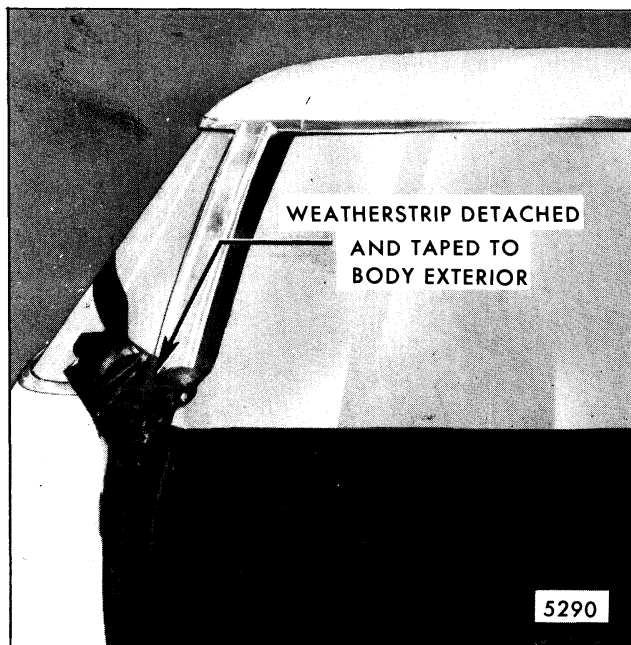

Fig. 7-89-Body Opening Weatherstrip Detachment for Window Removal
weatherstrip areas outboard to allow window clearance. Tape weatherstrip sections to body exterior (Fig. 7-89).
3. Detach back body opening weatherstrip sculptured belt detail sections and tape to body exterior as previously described (Fig. 7-89).